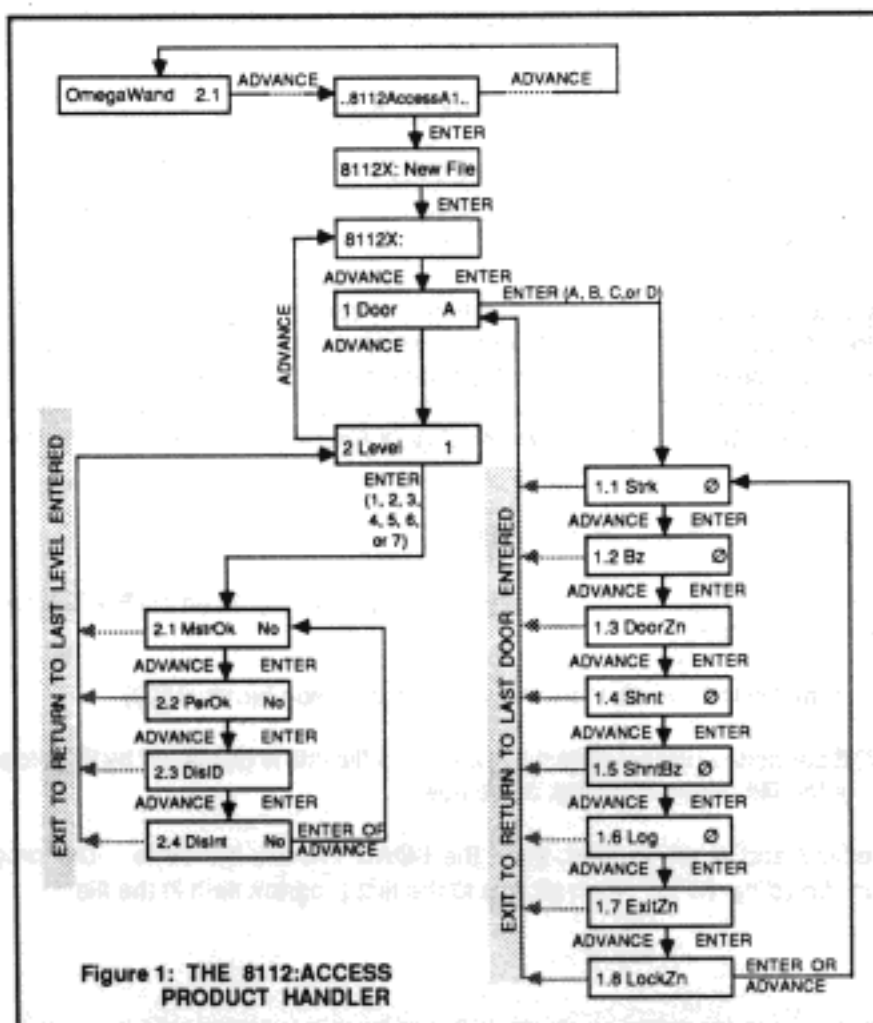

Figure 1: THE 8112:ACCESS PRODUCT HANDLER
4. The display now shows `1 Door A`. This is the first item of the 8112:Access program. To continue programming, see sections 6 and 7 which explain the Door and Level Modules. Figure 1 is an overview showing how to access various program items in the 8112:Access Product Handler Program.